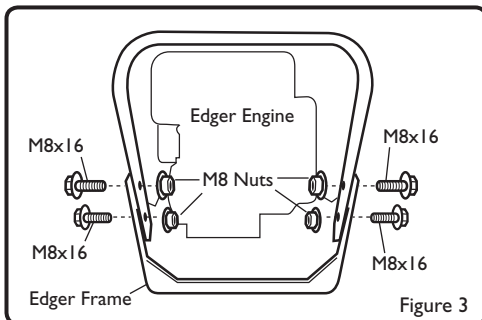

Figure 3
1. Mount the lower handle to the inside of the edger frame with the (4) M8X16 bolts, and (4) M8 Nuts (See Figure 3). As you tighten the fasteners, pull back on the handle. The torque for all nuts and bolts in the handle should be 7.4-11.8 foot-pounds [10-16 Nm].